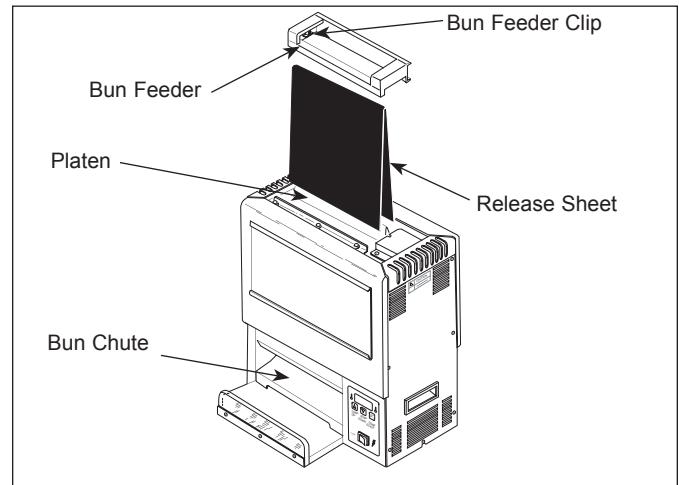

Figure 7. Removing/Installing Release Sheet
3. Remove the Release Sheet (Figure 7) and lay it on a clean, flat, dry surface.
5. Place the Release Sheet over the Platen. Allow the conveyor to draw it into place and verify that it is positioned properly (Figure 7).